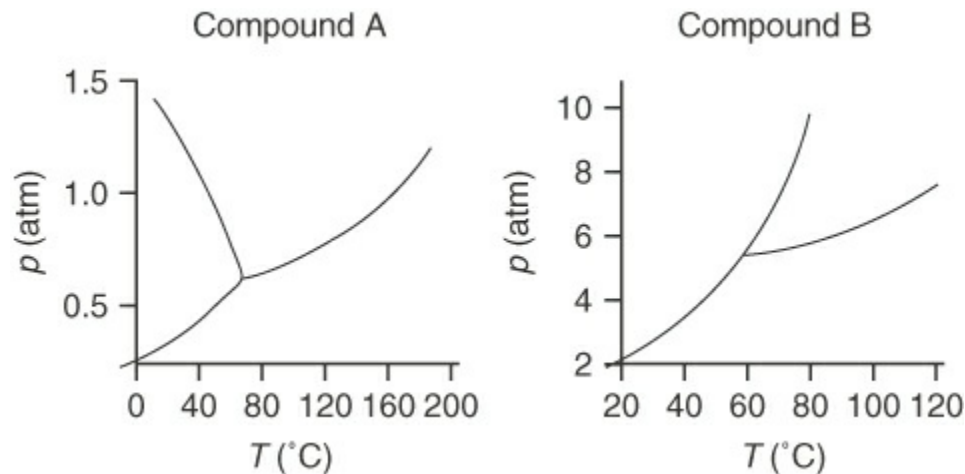

Figure P7.2.9
****7.2.9** Based on the phase diagrams in Figure P7.2.9, answer the questions and explain your answers.